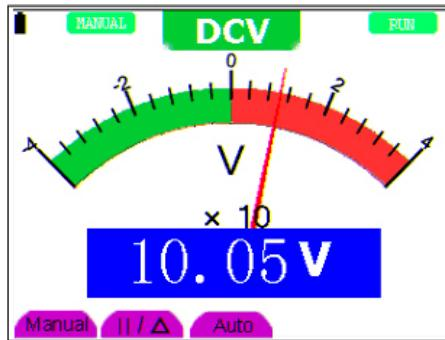

Figure 46: Automatic/manual range adjustment.
3. Press **F3** key and **AUTO** is displayed on the top left side of the screen to switch back to the automatic range mode. Look at the display; you can see a screen that looks like the following figure 46.